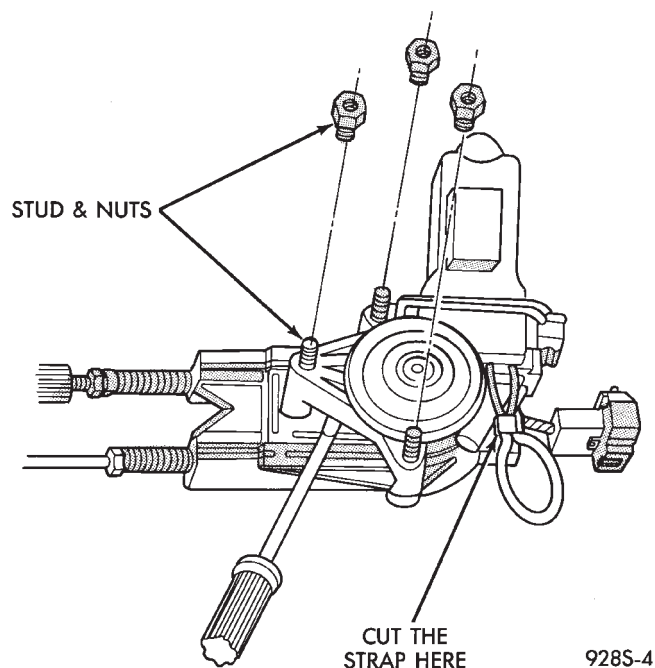

Fig. 16 Separating Motor from Housing
- (1) Refer to Front Door Window Regulator for removal.
- (2) The door glass must be in the down position.
- (3) Tape glass to door frame to hold glass in the up position.
- (4) If the window is not in the full up position, remove only the motor from the door.
- (5) Remove nuts from motor and cable housing (Fig. 16).